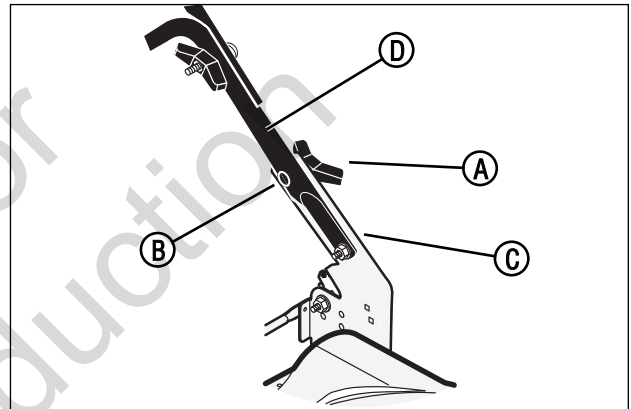

Figure 2: Unfolding the handle (hi-wheel models only)
For hi-wheel models, remove the wingnut (**A, Figure 2**) and bolt (**B**) from each handle bracket (**C**). Raise the lower handle (**D**), and secure with the removed bolt and wingnut.
5. Hold the engine stop lever against the handle. (Refer to section entitled 'Engine Stop Lever'.) Slowly pull the recoil-start grip (**A, Figure 2**). To attach the recoil-start grip to the rope guide (**B**), twist the rope through the rope guide mounted on the right side of the handle.